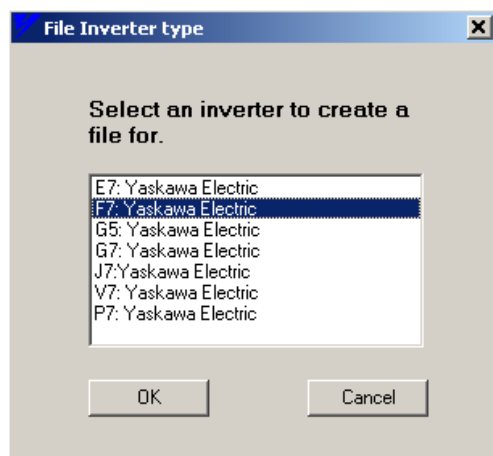

Figure 3.15: Select Inverter Type Window Window (Standard Database Shown)
1. Go to the main menu, click on File > New. A menu as shown in Figure 3.15 will appear. Select the drive family you are working with. Click **OK** when you have made your selection.